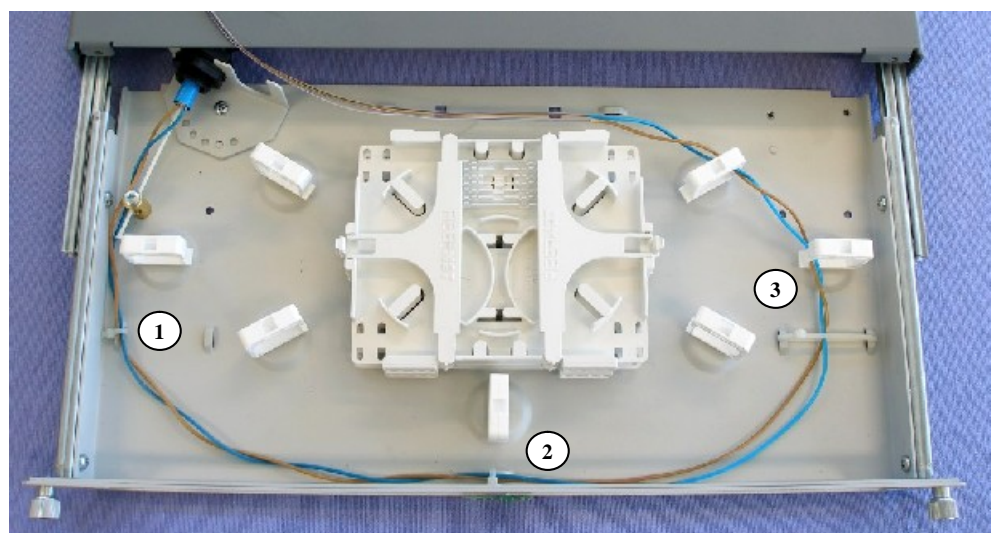

Figure 8. Loose tubes secured at the 3 allocated cable tie down locations
e) Using the cable ties supplied, secure the loose tubes at the three allocated cable tie down locations situated on the sliding drawer, see Figure 8.